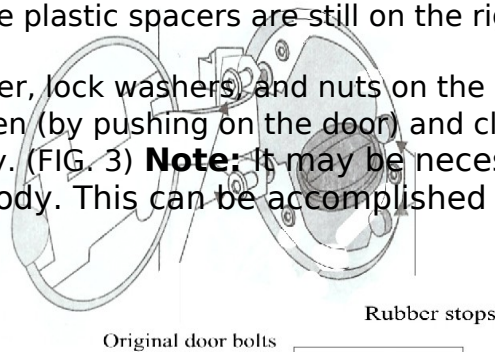

Fig. 1
1. Open the original fuel door and remove the 2 bolts on the left side holding the original fuel door on (FIG. 1)
3. Remove the rubber door stops on the right side by gently twisting and pulling. (FIG. 1)